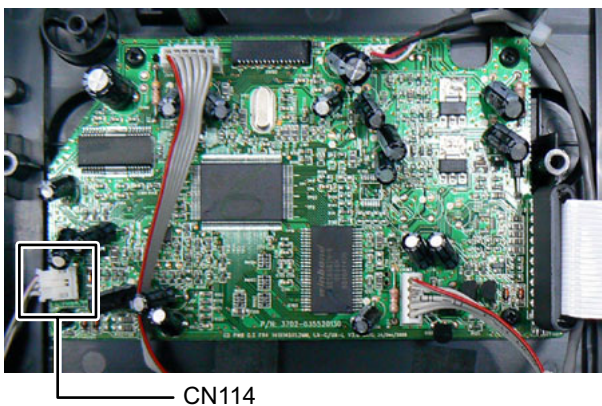

Fig.14
- (3) Disconnect the connector wire from USB board connected to connector CN114 of the CD board. (See Fig.14)